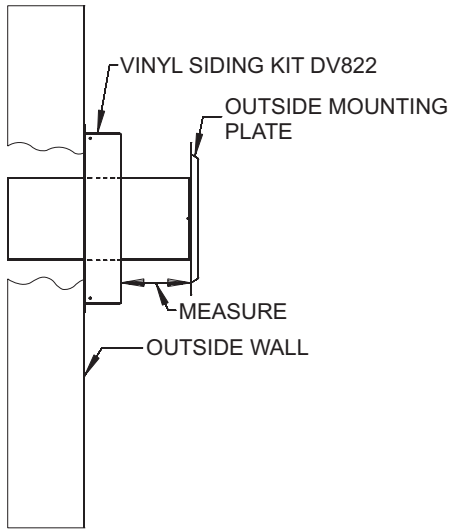

Figure 3A
5. Attach the inlet tube to the outside mounting plate. Align finnerman clips on the tabs of the air inlet tube to the holes on outside mounting plate, and fix with (2) #10 x 1/2" screws.
6. With the vinyl siding kit installed to wall (if necessary), insert the 6 5/8" (168mm) diameter tube with outside mounting plate attached through hole in wall. Connect to collar on fireplace or rigid vent system. Measure between wall or vent cap extension and outside mounting plate (Figures 3A and 3B).